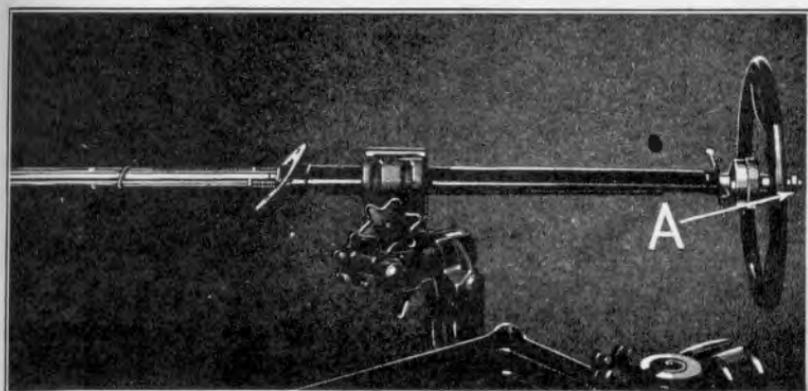

Fig. 386
- 747 Run off steering wheel nut (See "A" Fig. 386) and withdraw steering wheel with a wheel puller as shown in Fig. 14.